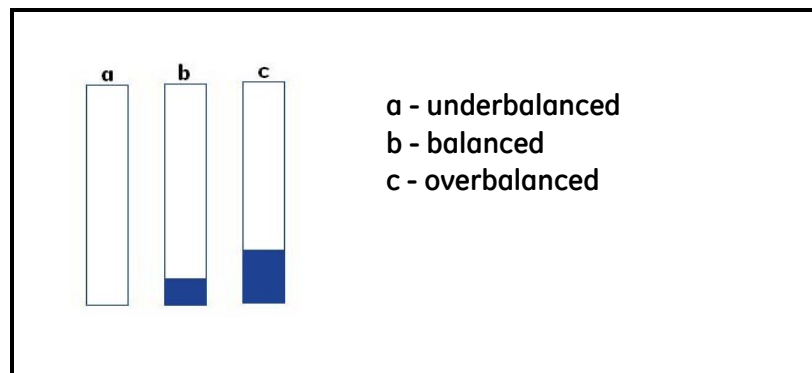

Figure 45: Coarse Adjust Balance Indicator While Mirror is Heated
4. Observe the balance indicator. It should have only one bar segment illuminated. Figure 45 below shows the possible variations for the indicator while the mirror is heated.